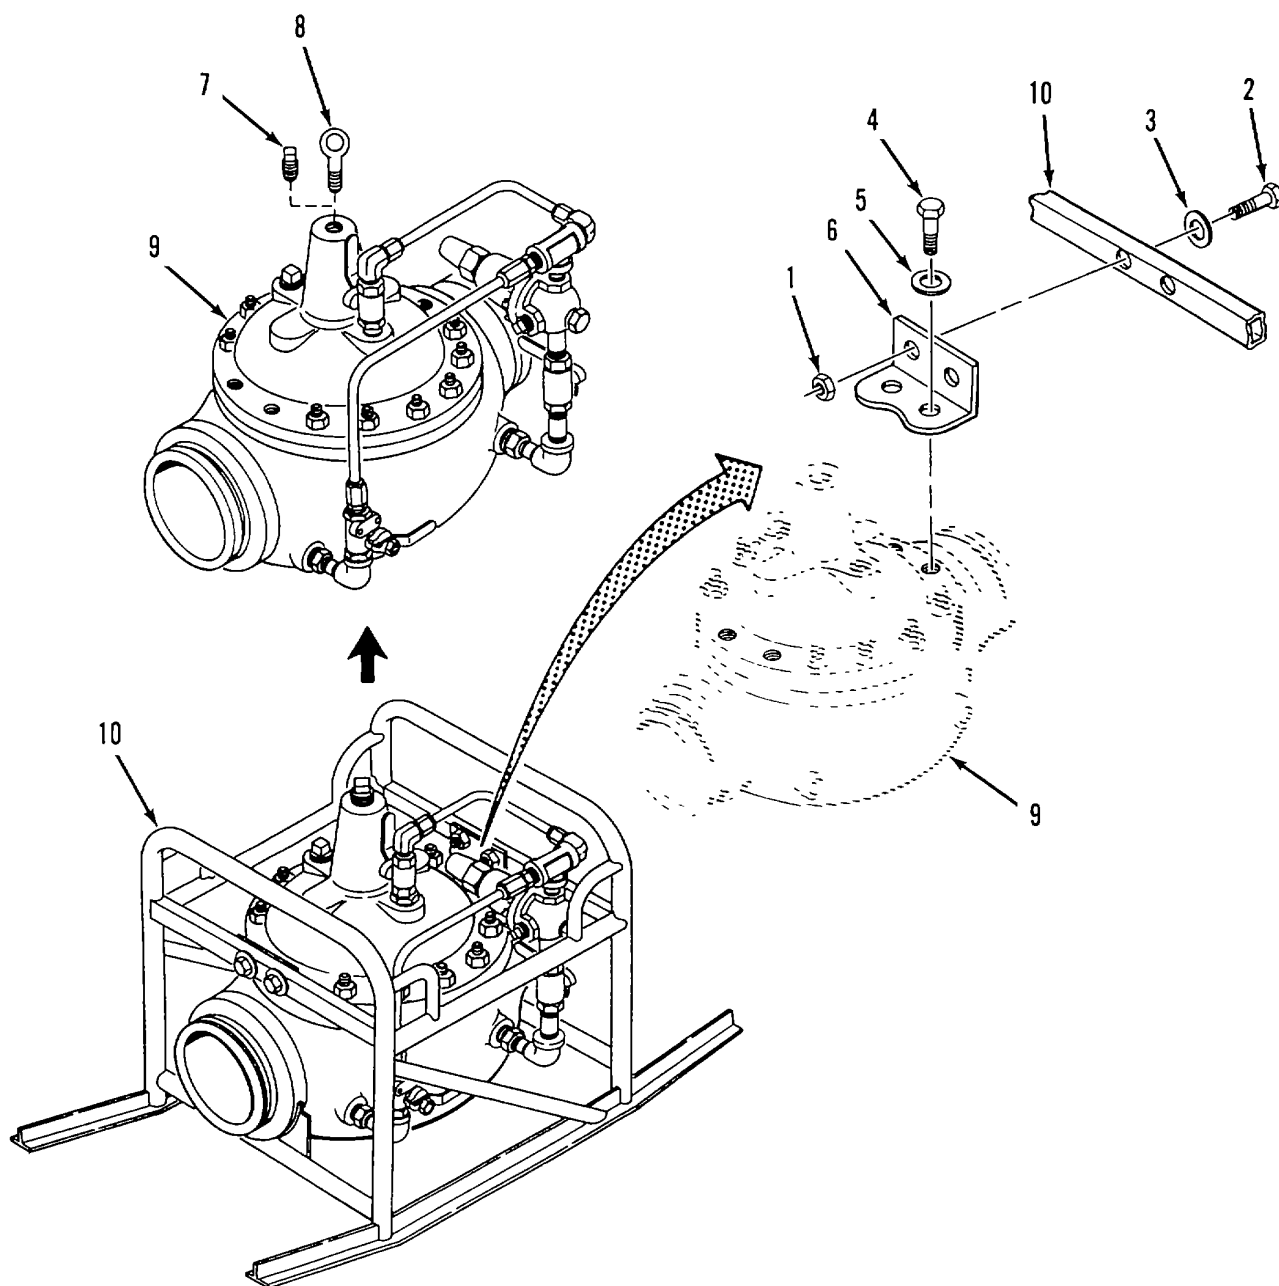

Figure 4-17. Pressure Regulating Valve Removal.
*Remove Valve. Refer to figure 4-17.*
- (1) Remove two nuts (1), bolts (2) and flat washers (2) from bracket (6).
- (2) Remove two bolts (4), flat washers (5), and bracket (6) from top of pressure regulating valve (9).
- (3) Repeat steps (1) and (2) for bracket (6) on other side of pressure regulating valve (9).
- (4) If required, remove plug (7) from top of pressure regulating valve (9) and install 3/4-inch eyebolt (8).
- (5) Inspect frame (10, figure 4-17) for cracks, broken welds and bent frame components.